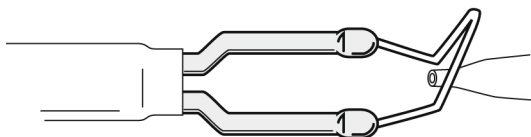

Fig. 21—Tip of large bore pipette in reshaped filament
The reformed H5 filament described in “Fire Polishing Large Bore Pipettes” can also be used for tip size reduction of large bore pipettes. To reshape the tip end and reduce its size, reform the filament so that the tip will fit inside the filament (Fig. 21), and then proceed to microforge as described in “Tip Size Reduction” on page 19.
2. Place the beveled pipette in the pipette holder. With the pipette tip far from the heat, press the RUN button on and off, and adjust the heat until the glass bead becomes molten (Fig. 21). Observe how far the filament has expanded.